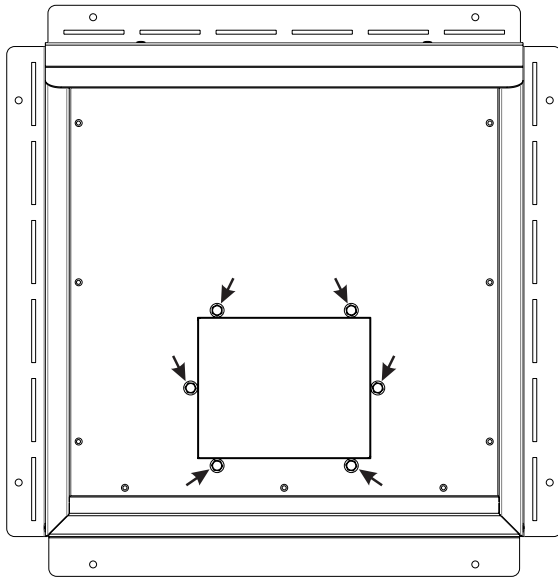

Figure 20
25. Install the Termination Back Plate by aligning the large rectangular hole with the Air Duct. Using (6) # 10 X ½" screws, secure the Back Plate to the Air Duct. **See Figure 20.**